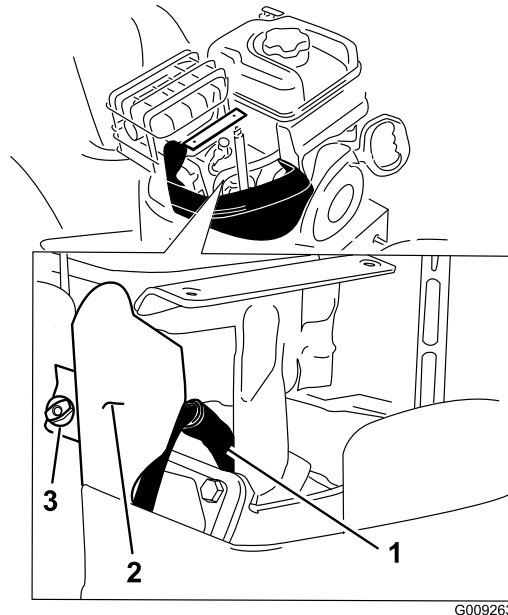

**Figure 46**
**Note:** To access the spark plug, you must first remove the upper snow hood (Figure 46).
1. Remove the choke knob and the ignition key (Figure 46).
2. Remove the 2 screws that secure the upper snow hood to the snowthrower (Figure 46).